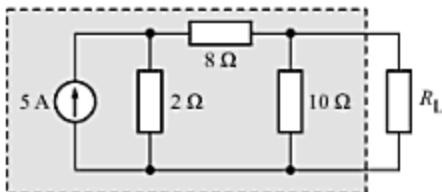

Fig. A-76
- A-35. Using repeated source transformations, determine the Norton's equivalent of network inside the dotted box in the circuit of Fig. A-76, and hence find the current that would flow in *R*L if (a) *R*L = 15 Ω, (b) *R*L = 10 Ω, and (c) *R*L = 5 Ω.